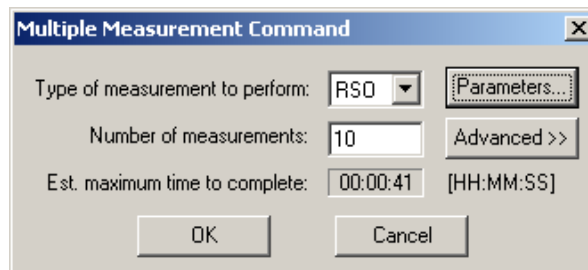
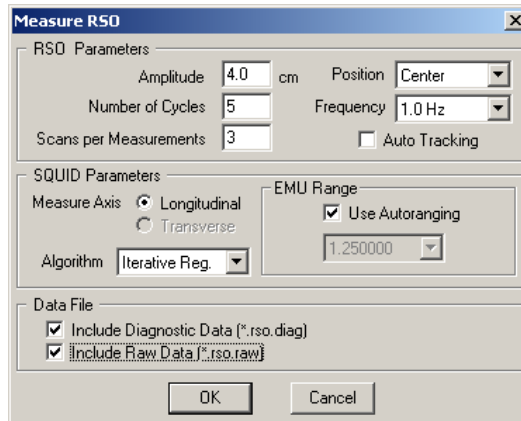

Figure 2. Multiple Measurement dialog box set up to perform RSO measurements.
Figure 3. Measure RSO dialog box for setting measurement parameters
3. Double click on the **Multiple Measure** command. The **Multiple Measurement Command** dialog box will open (see Figure 2)
In Figure 2, the dialog box is set to perform 10 RSO measurements. Additional specifications can be made by using the **Parameters** and **Advanced** buttons on the right side of the dialog box.
For example, because the **Multiple Measurement Command** dialog box in Figure 2 is set up for RSO measurements, clicking on the **Parameters** button produces the **Measure RSO** dialog box, as shown in Figure 3. In this example, a typical RSO measurement will consist of a 4 cm center scan at 1 Hz with 5 cycles per scan and 3 scans per measurement. For every measurement, the usual information will be recorded in the .dat, .raw, and .diag files.
The **Advanced** button acts differently. If you click on the **Advanced** button, the **Multiple Measurement Command** dialog box (Figure 2) expands to show a **Measurement Rejection Criteria** panel (see Figure 4). In this panel you can specify the criteria that will be used to reject individual measurements from the data that is collected. You can set two rejection criteria: